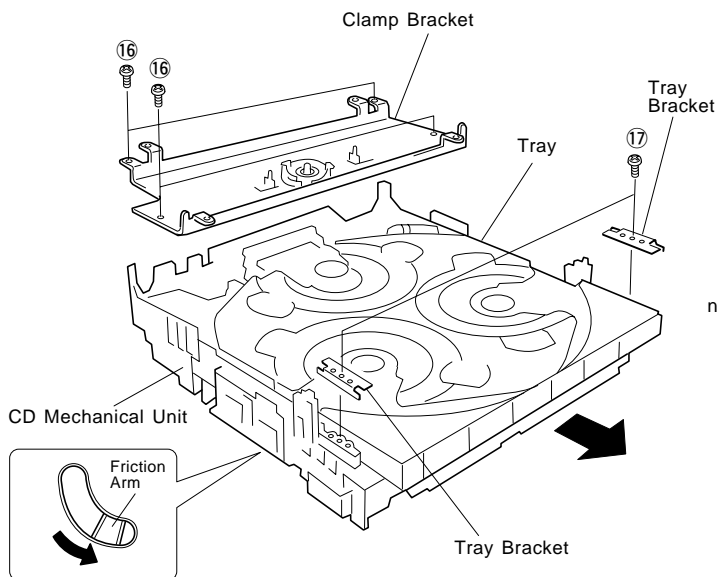

Fig. 11
- a. Remove 4 screws ( 16 ) and then remove the Clamp Bracket in Fig. 11.
- b. Remove 2 screws ( 17 ) and then remove the Tray Brackets in Fig. 11.
- c. Push the Friction Arm ( the bottom side of the CD Mechanical Unit ) with a screwdriver or the like and pull out the Tray forward as in Fig. 11.